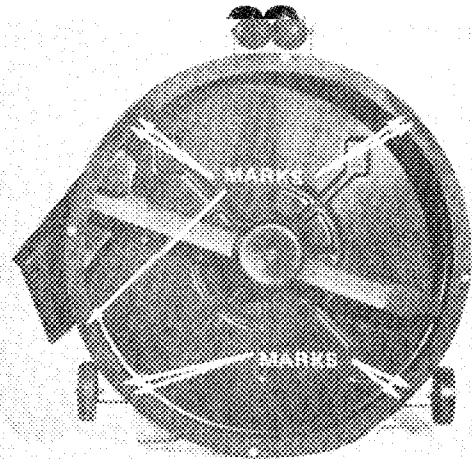

Figure 3
2. Using deck rings as templates, mark remaining mounting holes in deck rings and drill (9) 3/8 dia. holes (Fig. 3).